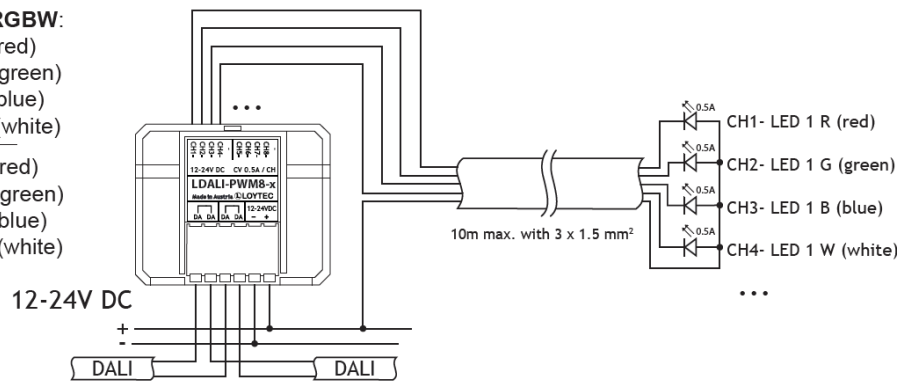
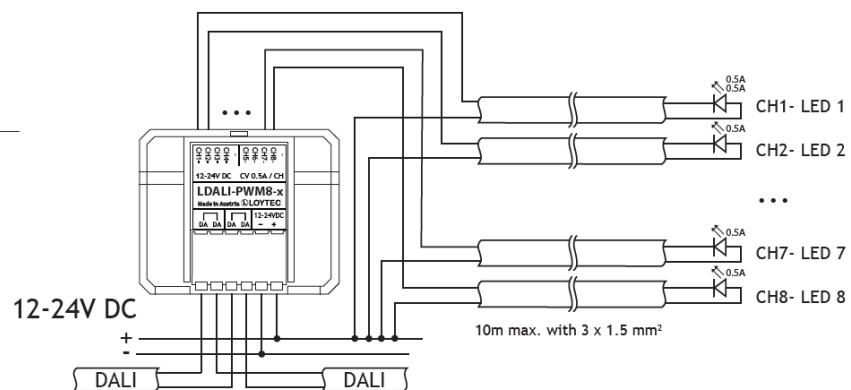

Figure 44: LDALI-PWM8 wiring
Figure 46: LDALI-PWM8-RGBW wiring
- Follow the wiring diagrams and cable cross sections in Figure 44 to Figure 46. Do not use single conductors for connecting LED-strips.